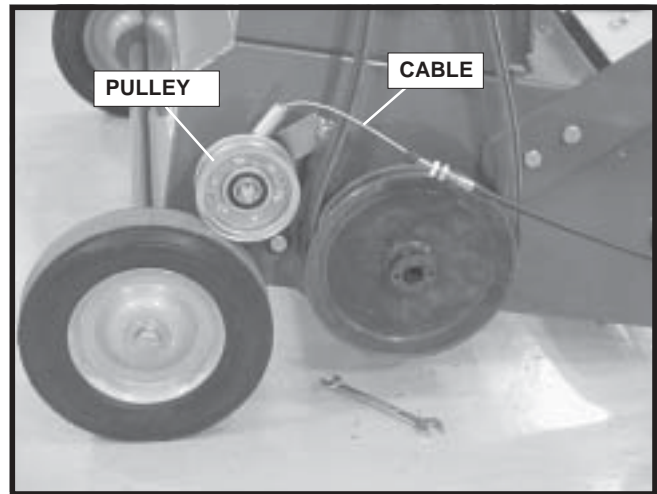

FIGURE 4
15. Remove belt guard. Remove cable by removing the pulley. See Figure 4. Attach new cable and replace pulley. Save the old cable for use when the bagger is not used.